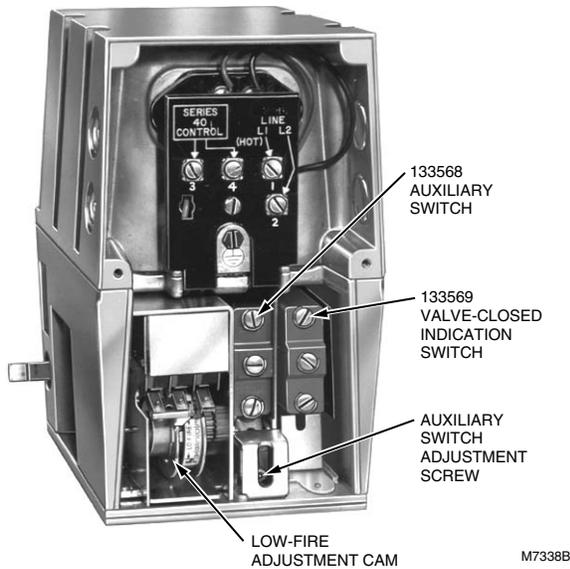

Fig. 2. V4062 Actuator with cover removed.
3. Insert the auxiliary switch in the position indicated in Fig. 2. Fasten with two screws through the actuator base.
4. Insert the proof-of-closure switch in the position shown in Fig. 2. The proof-of-closure switch mounts against the side of the actuator housing. The mounting holes are spaced to allow mounting the switch only in the correct position. Fasten with two screws through the actuator base.
The auxiliary switch can be adjusted to operate at any point in the actuator stroke. After installing the switch in the actuator, turn the adjustment screw (Fig. 2) clockwise  to cause the switch to operate earlier in the stroke or turn counterclockwise  to cause the switch to operate later in the stroke.
Adjust Max Flow Limit Switch (Fig. 2)